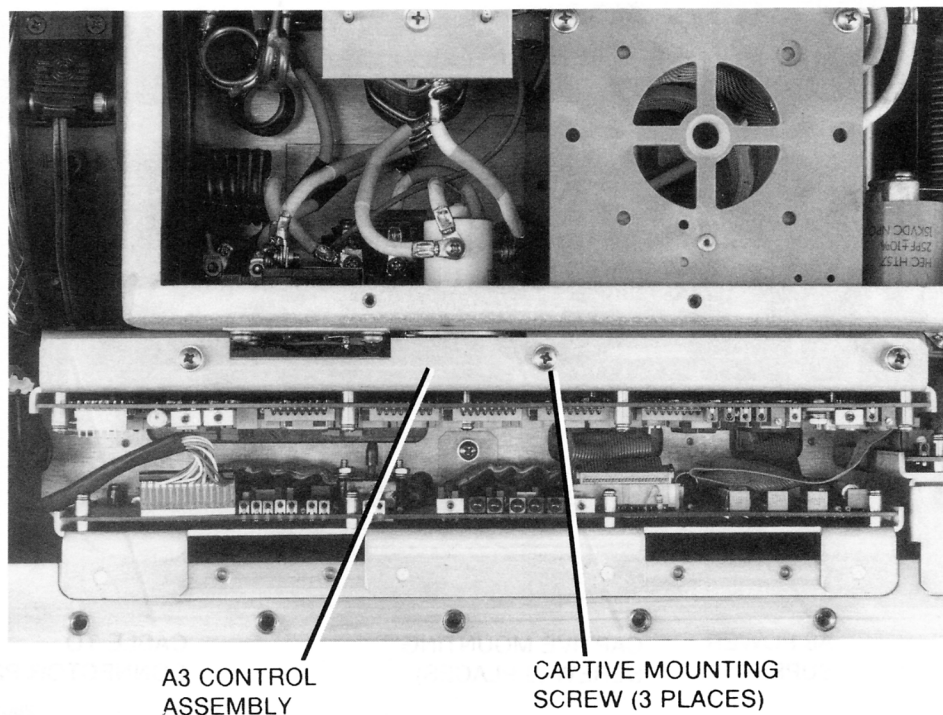

Figure 5-9. Transmitter Interface A7 Removal
5.5.10 Transceiver Interface A7 Removal (See figure 5-9)